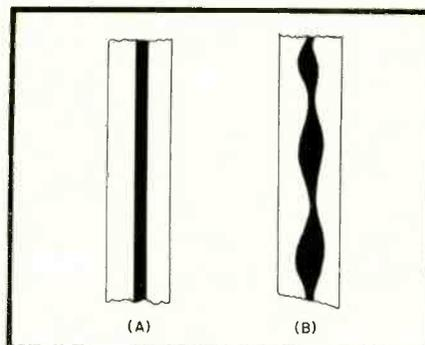

Fig. 3.
All this time the film has been passing the light slit and (A) of Fig. 3 shows how it will look after development—dark at the center where the light has struck. The deflection rate is so high with respect to the film travel speed that the line appears solid. Keep in mind now that the illumination of the beam goes out only when the grid of either V_3 or V_4 goes positive by a certain amount or more.
The converse is true as well. When the audio is at a maximum positive point in the cycle, the V_3 or V_4 grid voltage is so positive that the blackout begins almost instantly when the beam departs from middle position. It is thus obvious that the instantaneous level of the audio cycle determines the width of the black area on that section of the film passing the slit at that instant. The width of the black area is exactly proportional to the instantaneous amplitude and phase of the audio signal and a sine-wave audio signal will appear in the developed film as in (B) of Fig. 3. When the positive film is printed it will be black at the edges, with the push-pull sine-waveform at the center in white (clear) and will be a standard variable-area recording.